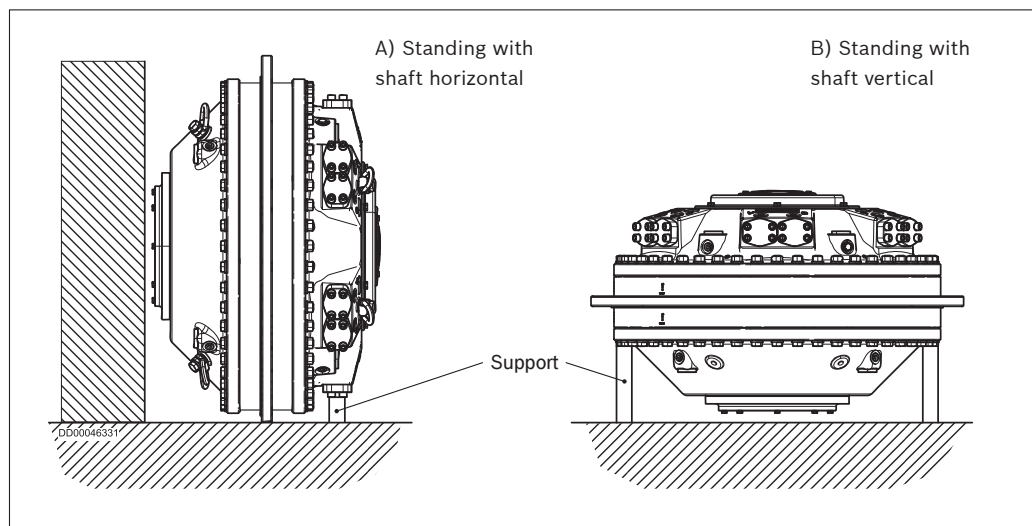

Fig. 14: Hägglunds CBM standing on a flat surface
- ▶ It is also advisable to provide supports at the mounting surface of the motor, see Fig. 14: Hägglunds CBM standing on a flat surface alt.B) Standing with shaft vertical .
When the motor is placed on a flat surface such as a floor, it must stand either on its outer diameter shaft or on the suitably protected end face of the hollow shaft. It is also advisable to provide supports shown in Fig. 14: Hägglunds CBM standing on a flat surface.
- 1 Place the motor as shown in Fig. 14: Häggglunds CBM standing on a flat surface, alt.A) Standing with shaft horizontal.
- 5 Position the motor as shown in Fig. 14: Häggglunds CBM standing on a flat surface, alt. A) Standing with shaft horizontal. or B) Standing with shaft vertical.